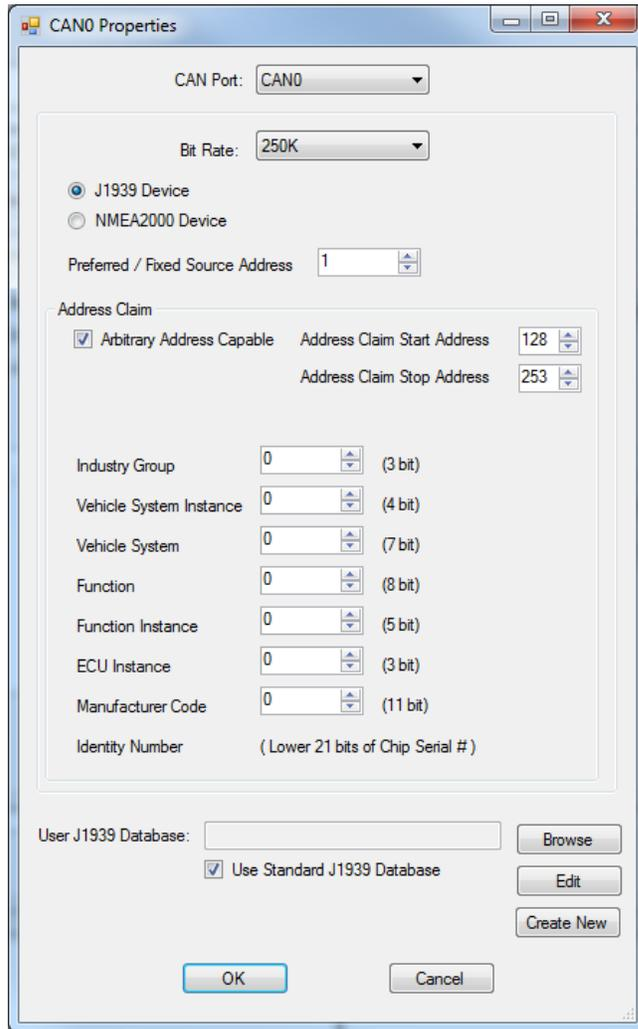

Figure 2-34 - CAN / J1939 Properties
6. Click **ADD**. From the drop-down menu, select the CAN port to use (must have been installed prior to this step). Refer to Figure 2-34. All the configuration parameters for the J1939 / NMEA 2000 communications must be configured here. Refer to the **P-Series EZ LADDER Toolkit Manual for more in-depth information on configuring and using SAE J1939 and NMEA 2000**.